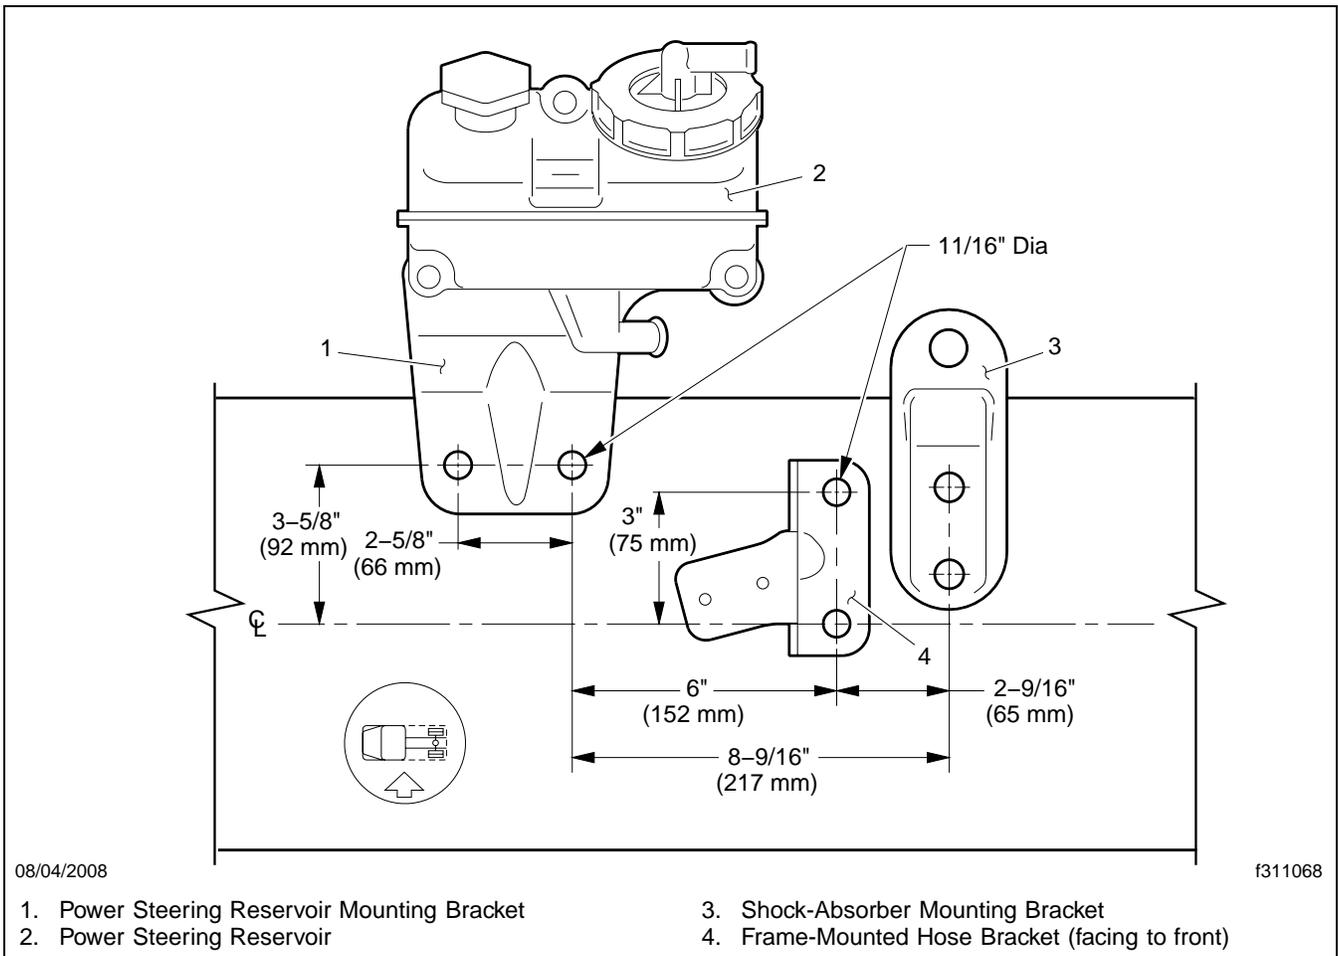

Fig. 3, Drilling and Mounting Locations
16. Mark the layout of the holes on the frame, using the drilling diagram. See **Fig. 3**.
27. Install the frame-mounted hose bracket, as shown in **Fig. 3**.